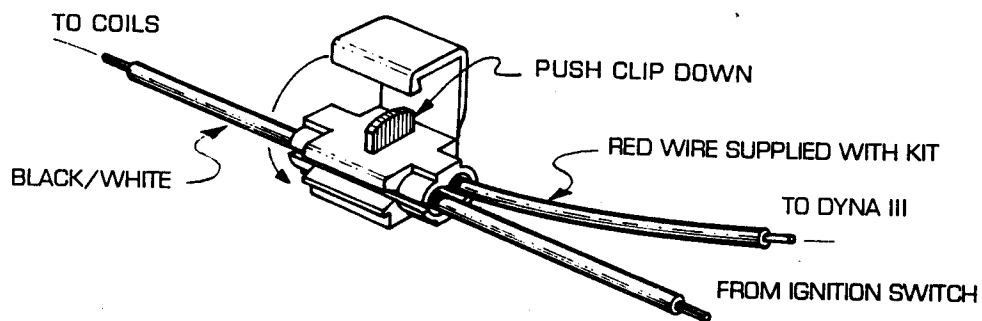

FIGURE 2
- 4) Remove the fuel tank. Locate the two ignition coils. There is a black/white wire coming from each coil to a common junction in the wire harness. These wires carry the switched 12 volts to the coils. Using the splice connector provided, (FIGURE 2) attach the separate red wire included in the kit to the black/white wire that goes to the coils. Do not strip the wires when using the splice connector. Use pliers to push the clip down.